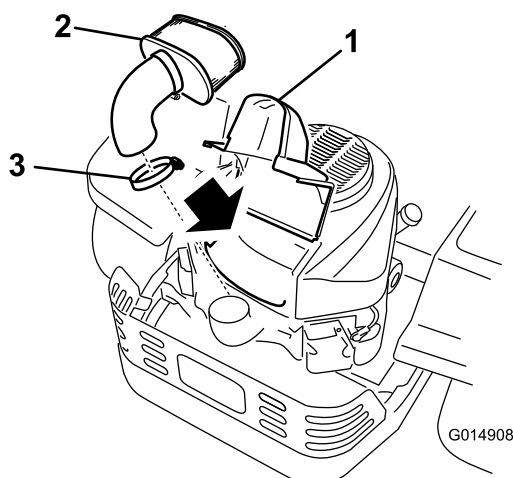

Figure 28
3. Clean around the air cleaner cover to prevent dirt from getting into the engine and causing damage. Lift the cover and remove the hose clamp securing the air cleaner assembly to the engine (Figure 28).
4. Loosen the hose clamp and remove the paper element (Figure 28).